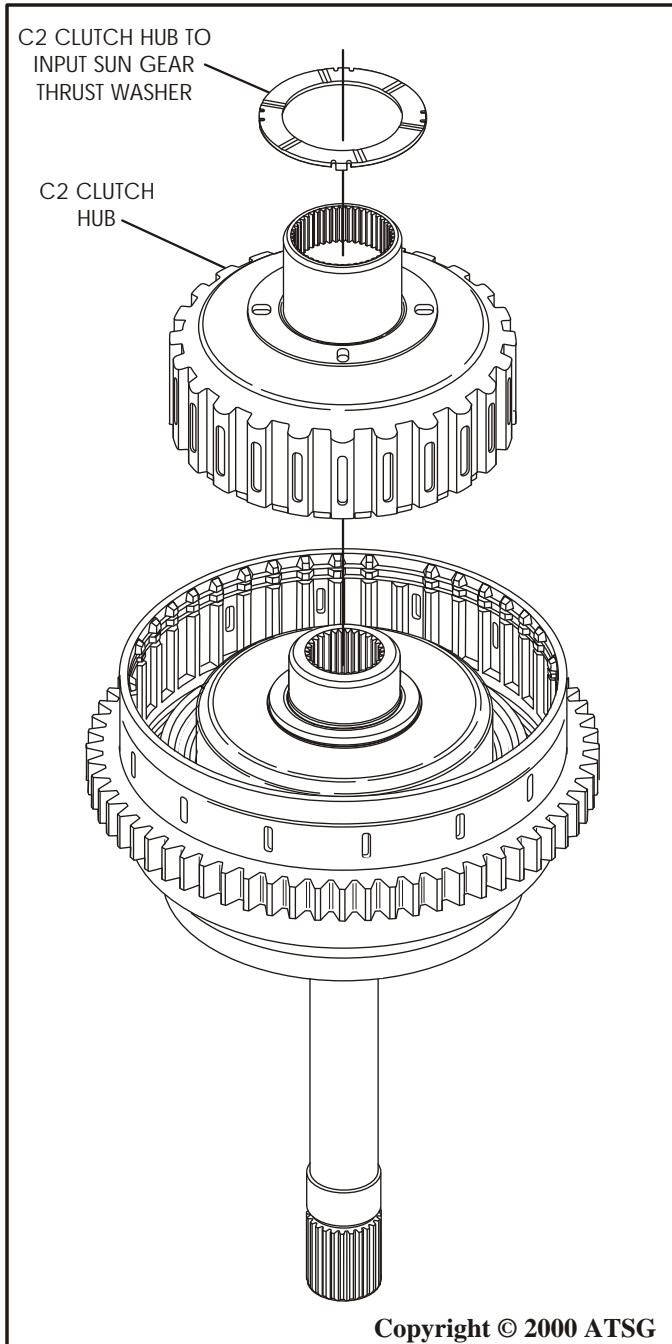

Figure 113
36. Install the C2 clutch hub over C1 clutch hub, as shown in Figure 113.
37. Install C2 clutch hub to input sun gear thrust washer, ensuring that tabs are engaged into the slots on C2 clutch hub, as shown in Figure 113